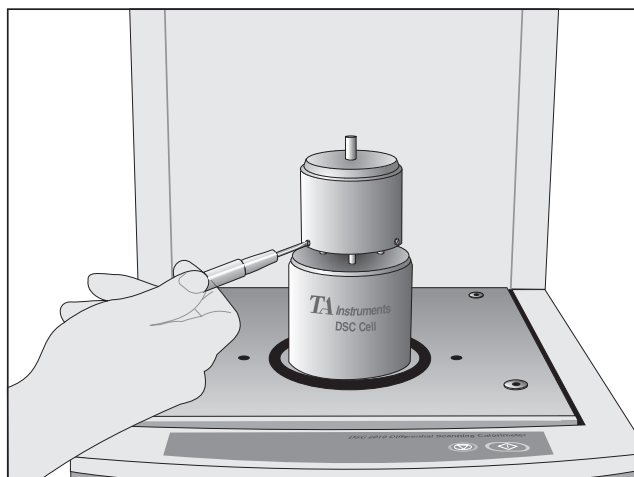

Figure 2.2
3. Remove the three (3) retaining screws, then *carefully* remove the thermal radiation shield surrounding the heater. (see Figure 2.2).